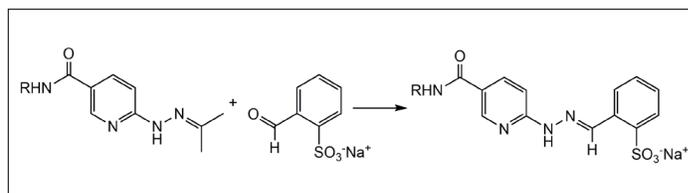

Figure 2: Colorimetric reaction used to quantify the number of HyNic groups on a biomolecule.
1. The molar substitution ratio (MSR) can be determined using a colorimetric reaction outlined in Figure 2. Addition of 2-sulfobenzaldehyde to a HyNic-modified biomolecule yields a bis-aryl hydrazone that absorbs at 350 nm. Refer to the HyNic-Protein MSR Calculator as well as the protocol that is appropriate for your lab equipment: HyNic Protein MSR Instructions.